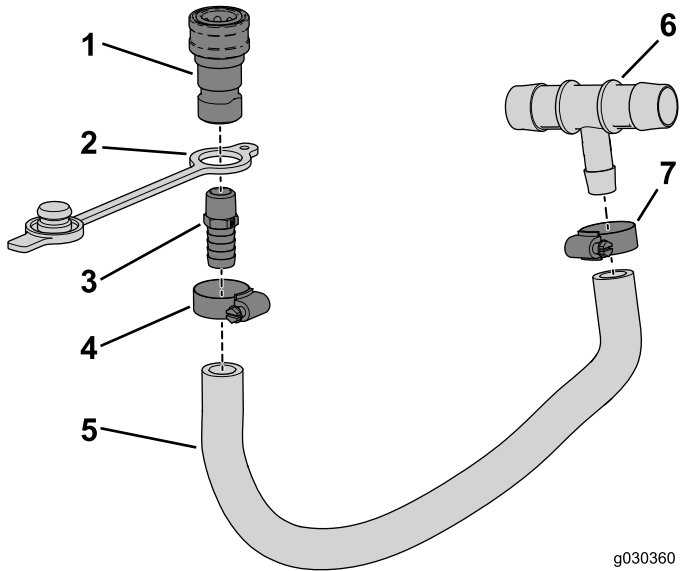

Figure 17
2. Slide the dust plug over the threaded end of the straight fitting as shown in Figure 17.
3. Thread the straight fitting to the female coupler (Figure 17).
6. Insert the barbed end of the straight fitting into the hose and secure it with the hose clamp as shown in Figure 17.
7. Insert the barbed end of the tee fitting into the hose and secure it with the hose clamp as shown in Figure 17.
1. Remove the caps covering the holes in the support tube (Figure 17).